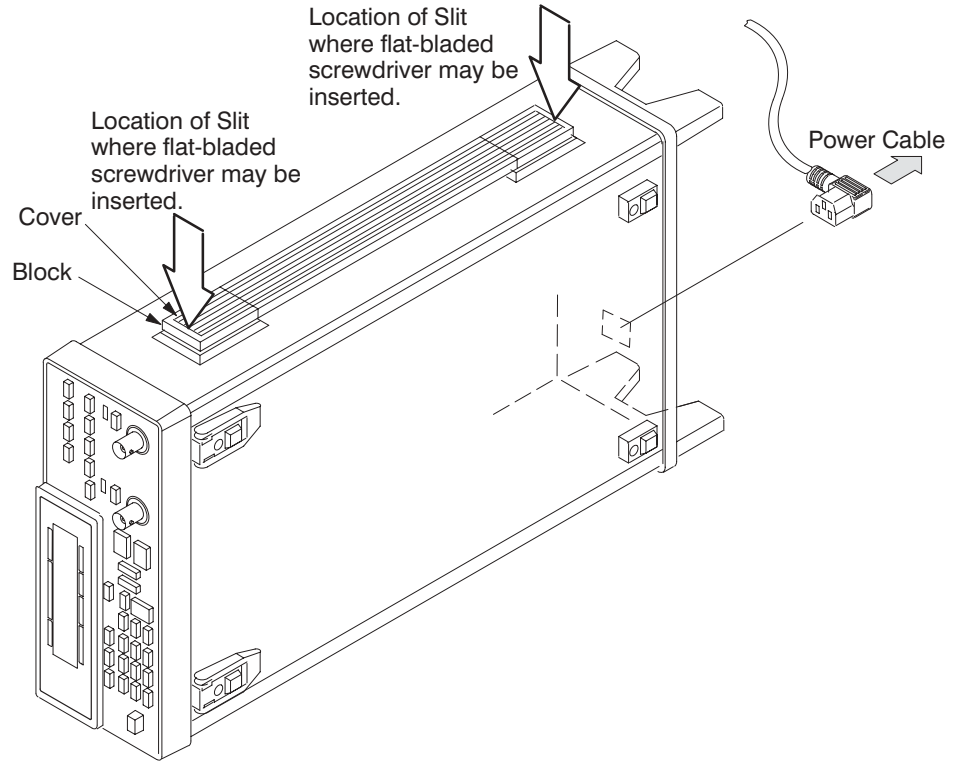

Figure 1: Location of slit where flat-bladed screwdriver may be inserted
1. Insert the flat-bladed screwdriver into the slit between the block and the cover. See Figure 1.